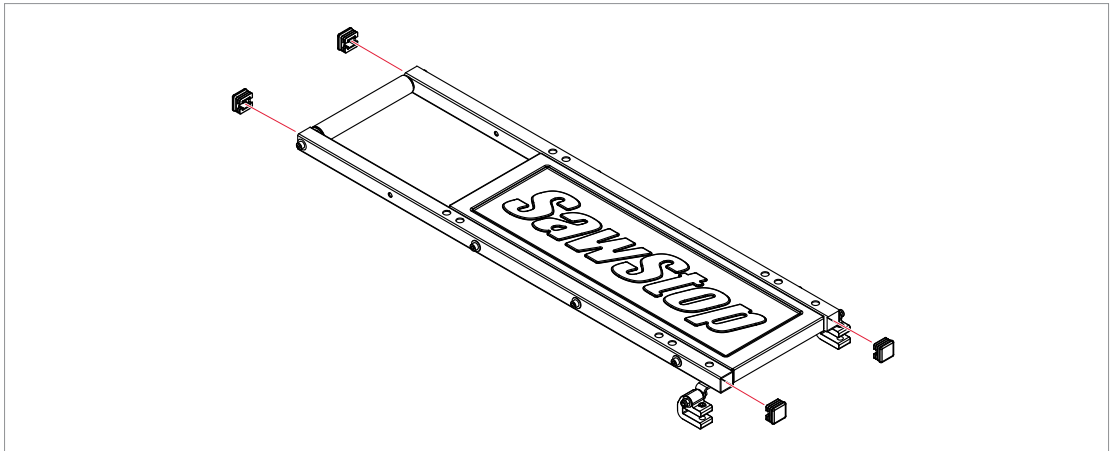

Fig. 39
- 8 Install a tube end cap into the open ends of both table tubes attached to the insert table (see Fig. 39 or the exploded view in Fig. 56 on page 57).